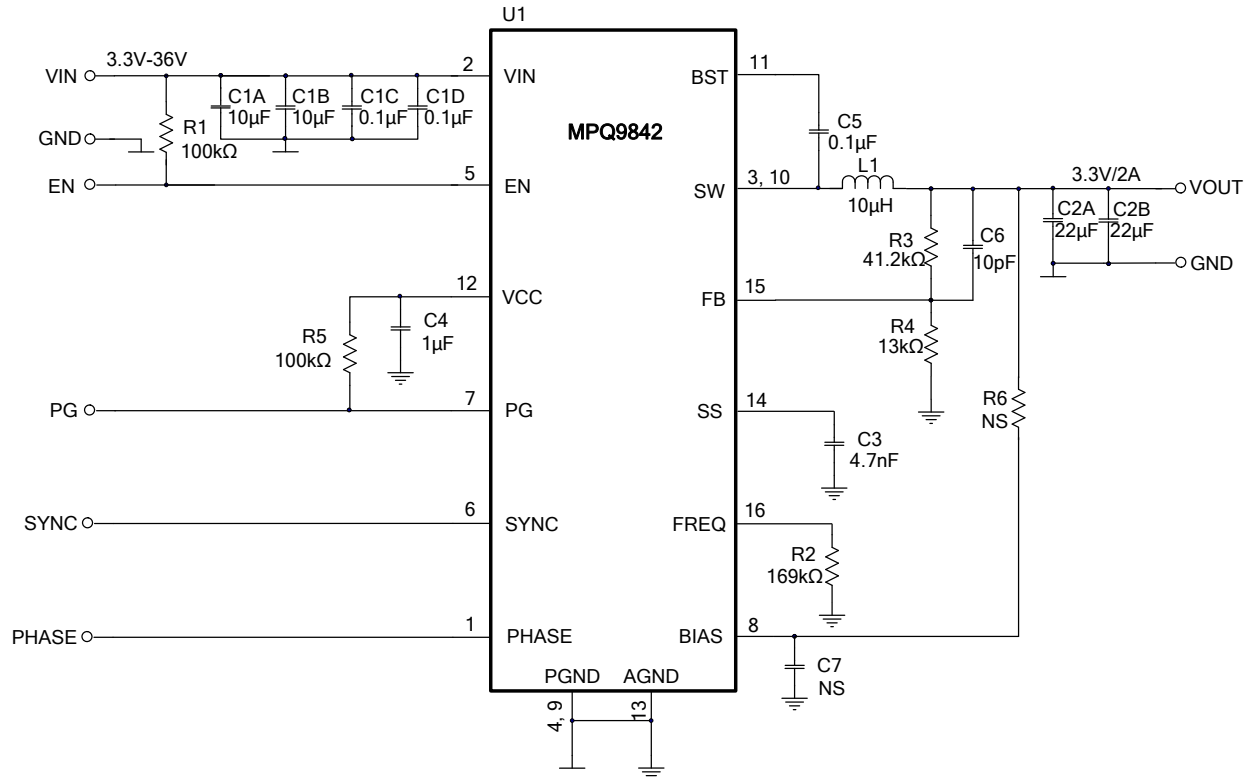

Figure 8: $V_{OUT} = 3.3V$, $f_{sw} = 500kHz$
- 8) The recommended PCB layout is based on Figure 8.